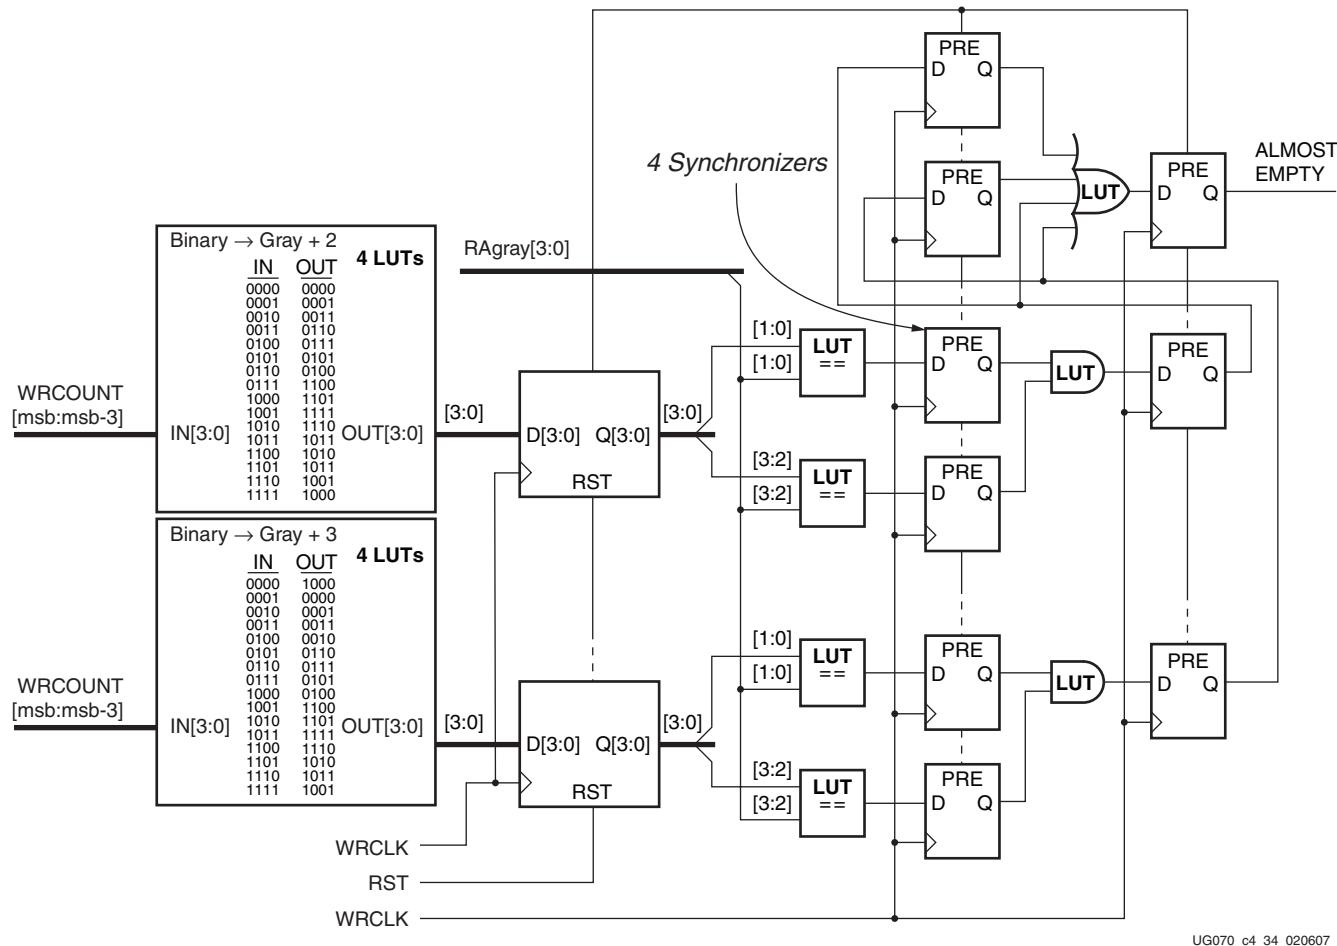

Figure 4-33: ALMOSTEMPTY Flag Generation
The ALMOSTEMPTY flag goes true if the current read sector is equal to the current write sector, or if the current read sector is equal to the current write sector - 1. ALMOSTEMPTY flag is generated similar to the ALMOSTFULL flag and is shown in Figure 4-33.
- Clearing of the ALMOSTEMPTY flag occurs between 3 and 4 RDCLK periods after an equality goes false in Figure 4-33.